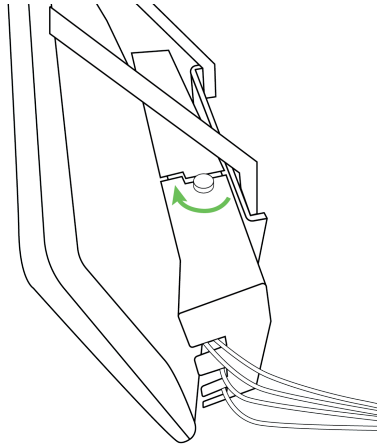

Figure 6-61. Securing the USB port cover
5. After plugging in all peripherals into the correct ports, install the USB port cover and secure it with the supplied thumbscrews (Figure 6-61).